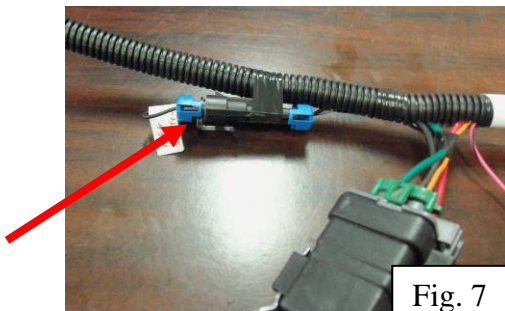
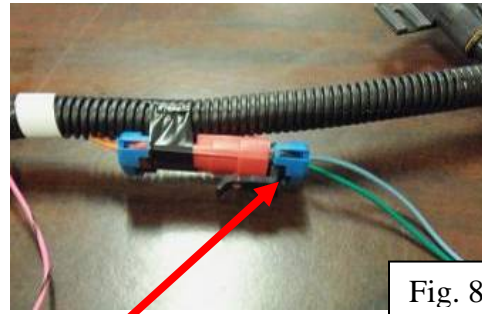

Fig. 7
Fig. 8
10. In order to wire the car for the positive switch, the jumper should be installed into the black connector (Fig. 7) of the harness and the green and blue leads should be connected to the red connector (Fig. 8). The blue and green wires will then run to your toggle switch.